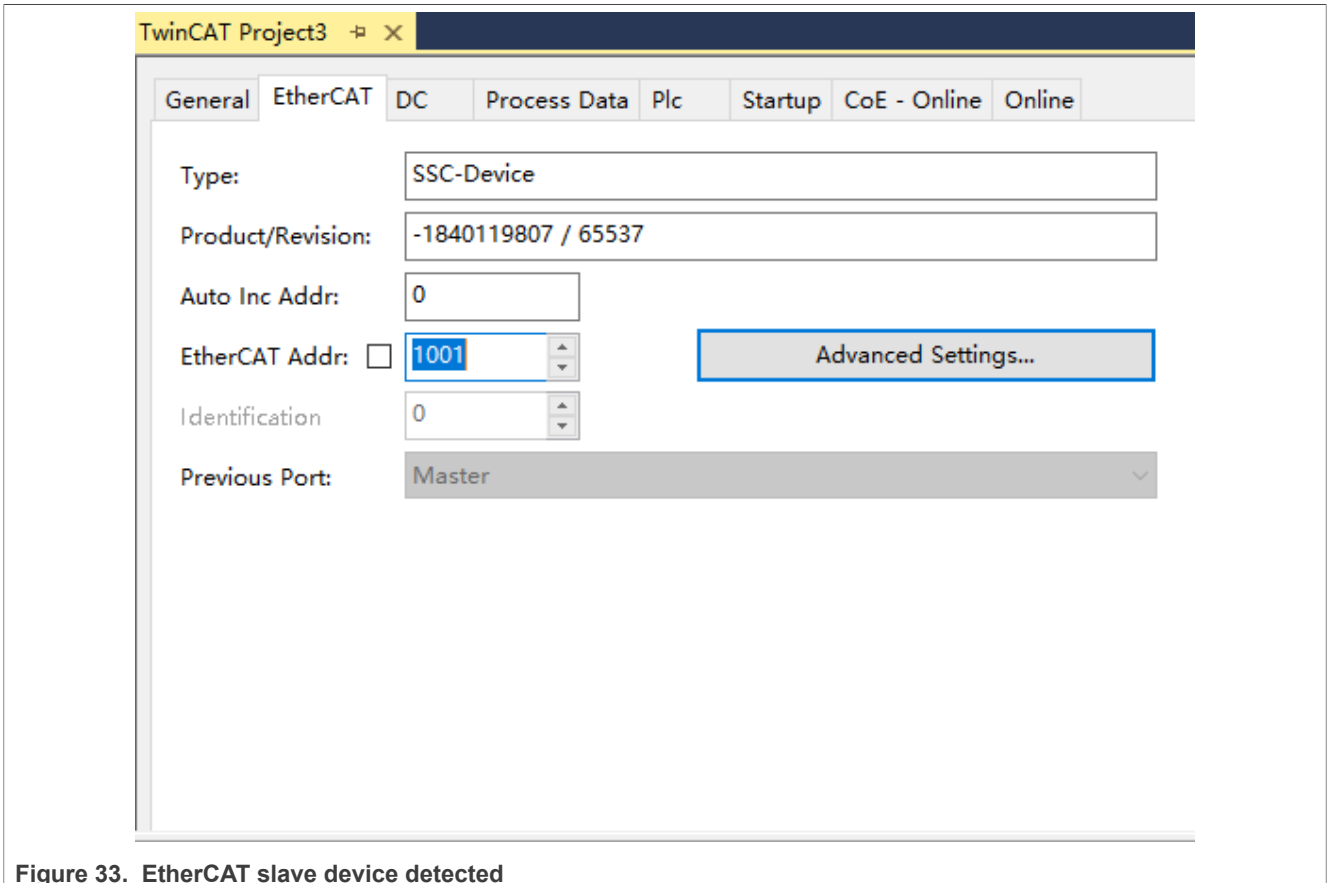

Figure 33. EtherCAT slave device detected
1. Click **Box 1** and select **Advanced Settings** in EtherCAT pane, as shown in Figure 33.